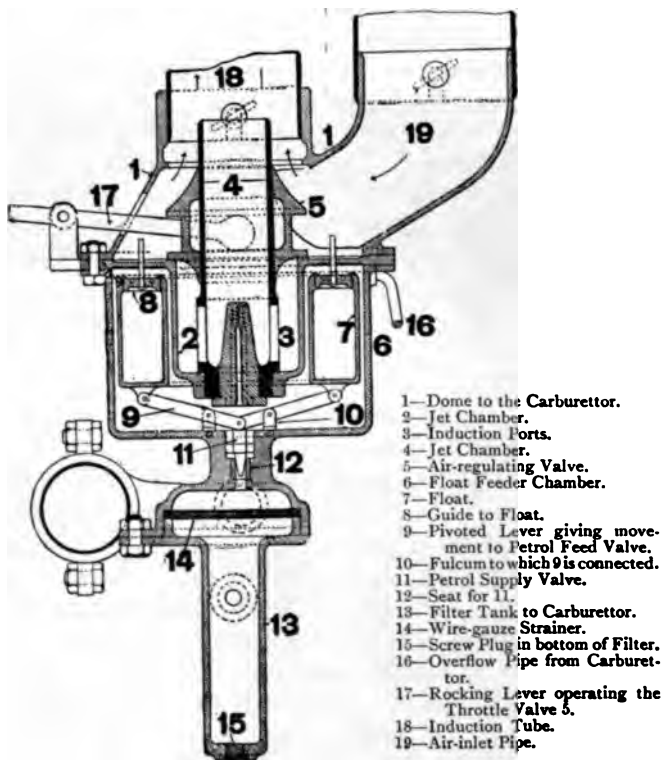
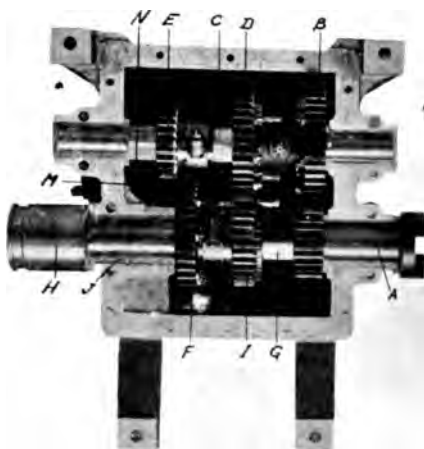
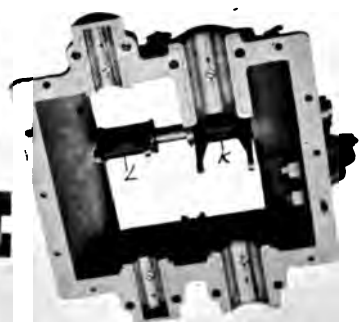

FIG. 3. SECTIONAL ELEVATION OF THE HUTTON CARBURETTOR
FIG 1
FIG 2
Fig. 3 shows a sectional elevation of the carburettor. This carburettor is controlled direct from the governor in such a manner that the richness of the explosive mixture is varied automatically according to the speed of the engine and the power required. This is accomplished in the following manner: The body of the carburettor (6) contains an annular float (7) surrounding the jet, which is in the centre of an induction tube (4). This induction tube, which is perforated in the end adjacent to the jet (3), projects into the main induction pipe (18) of the engine. Sliding on the induction tube is a throttle-collar (5) operated by means of a rocking lever (17), which is coupled to the governor. As shown in the drawing, this collar has shut off all access to the induction tube orifices (3), at the same time leaving a full passage for air up the main induction pipe; and this is the position which the collar would assume if the engine tended to race or was set by hand to run at the minimum speed.
The arrangement of the gear-box is very clearly illustrated in the accompanying plate. Fig. 1 shows the lower half of the case with the gears in the second-speed position. Fig. 2 shows the upper half of the case, with the striking levers, by means of which the position of the gear wheels is moved. Fig. 3 shows the lower half of the case with the reverse gear in position, but with the other gear removed; Fig. 4 another position of Fig. 2, and Figs. 5 and 6 the separate shafts with their gear wheels.